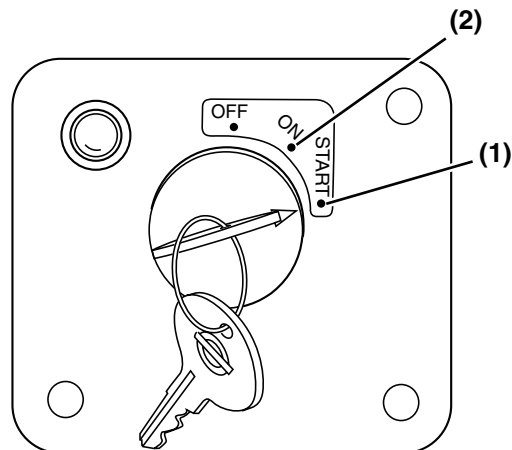

Figure 13
2. Turn the key clockwise to the START position (**Figure 13, (1)**). Release the key as soon as the engine starts. It will return to the ON position (**Figure 13, (2)**).